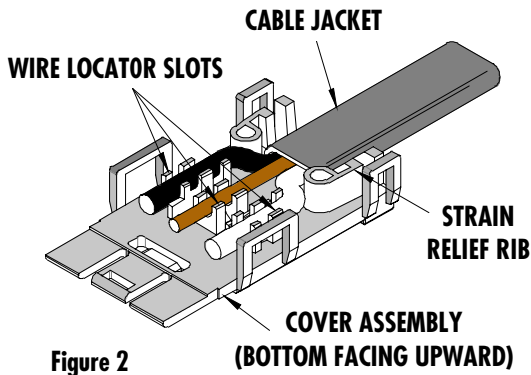

Figure 2
- Position the clear cover (bottom facing upward) as shown in Figure 2.
- Position wires into locator slots. Be certain to place black wire in slot marked BLK, green or bare wire in slot marked GRD, and the white wire in the third slot. Upon final positioning of all wires, be certain the end of the cable jacket is a minimum of .06" past the second strain relief rib as shown in Figure 2.